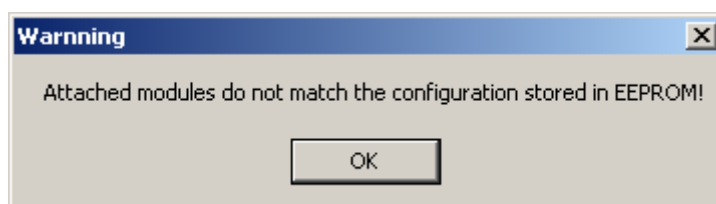

Fig 5-19 Warning message dialog
Step 4: When the i-7K modules scan is finished; the result of scan will be compared with the parameters stored in the EEPROM of the i-7241D. If any difference has been detected, the warning message will pop up as figure 5-19.